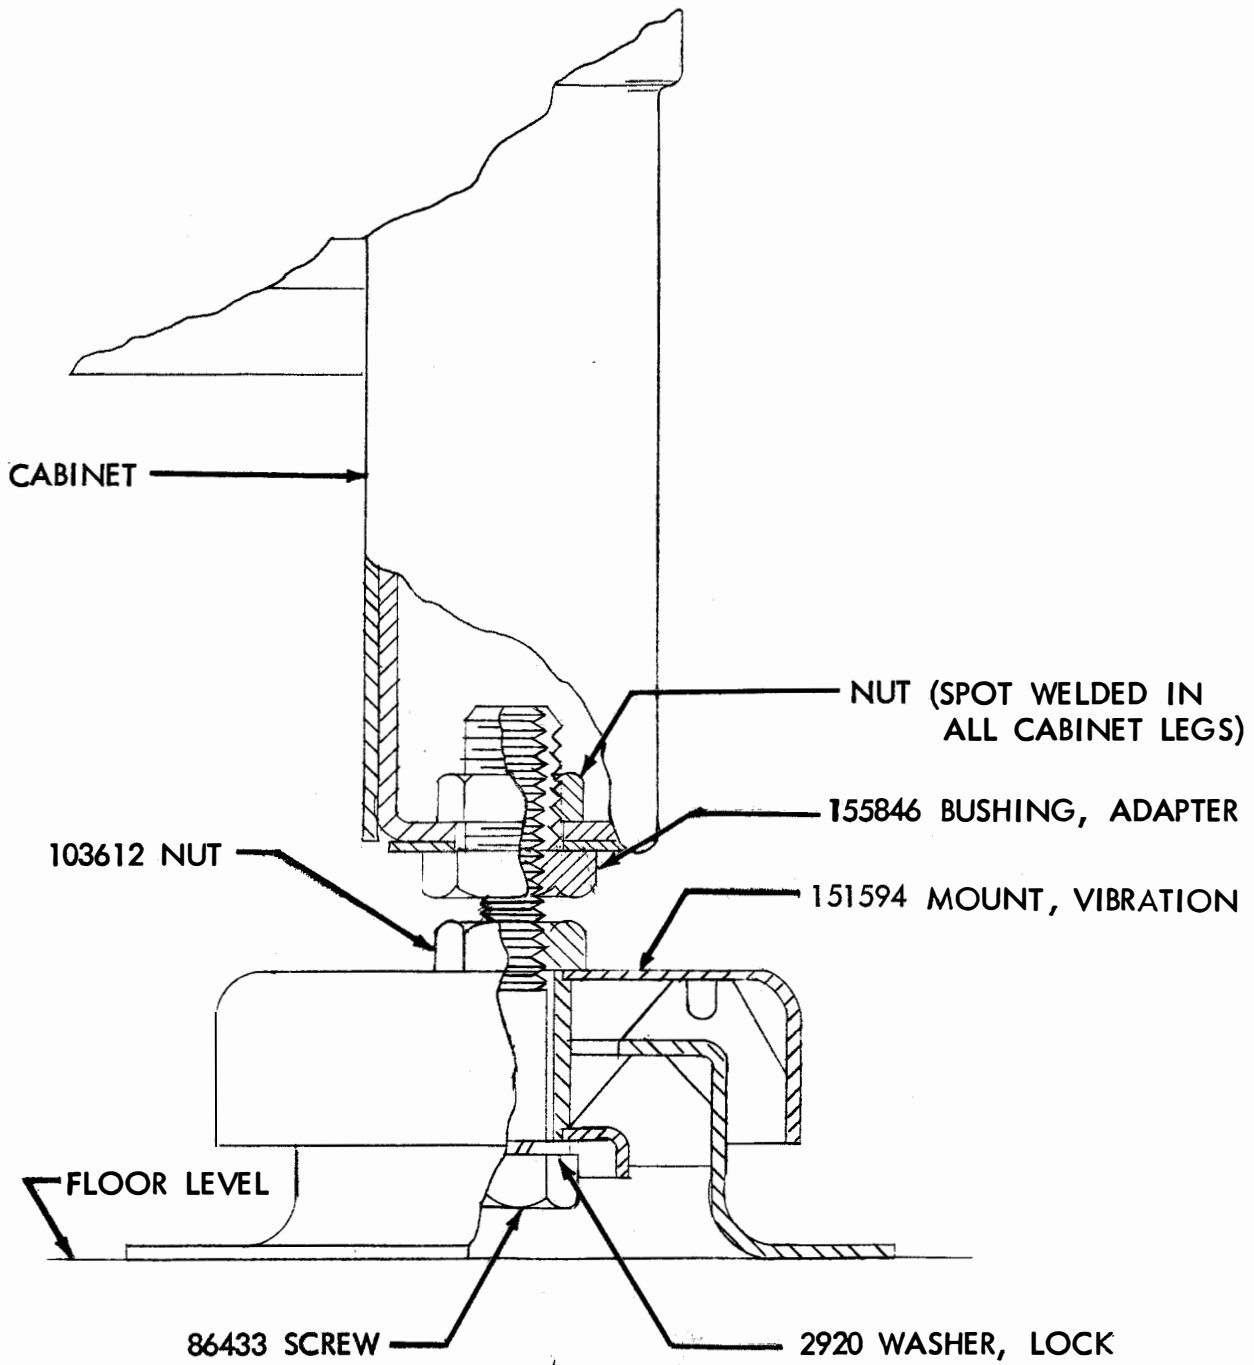

FIGURE 1
2. INSTALLATION (Figure 1)
b. Thread a 155846 Adapter Bushing into the hole of each leg. See Figure 1. Tighten the bushings. (If the cabinet is equipped with 151555 Mounting Feet, it will be necessary to remove the feet before installing the bushings. Discard the mounting feet.)
c. Insert a 86433 Screw, with 2920 Lock Washer, through the bottom of each 151594 Vibration Mount, then thread a 103612 Nut on each of the 86433 Screws, until flush with the vibration mount. See Figure 1. Tighten the nuts.